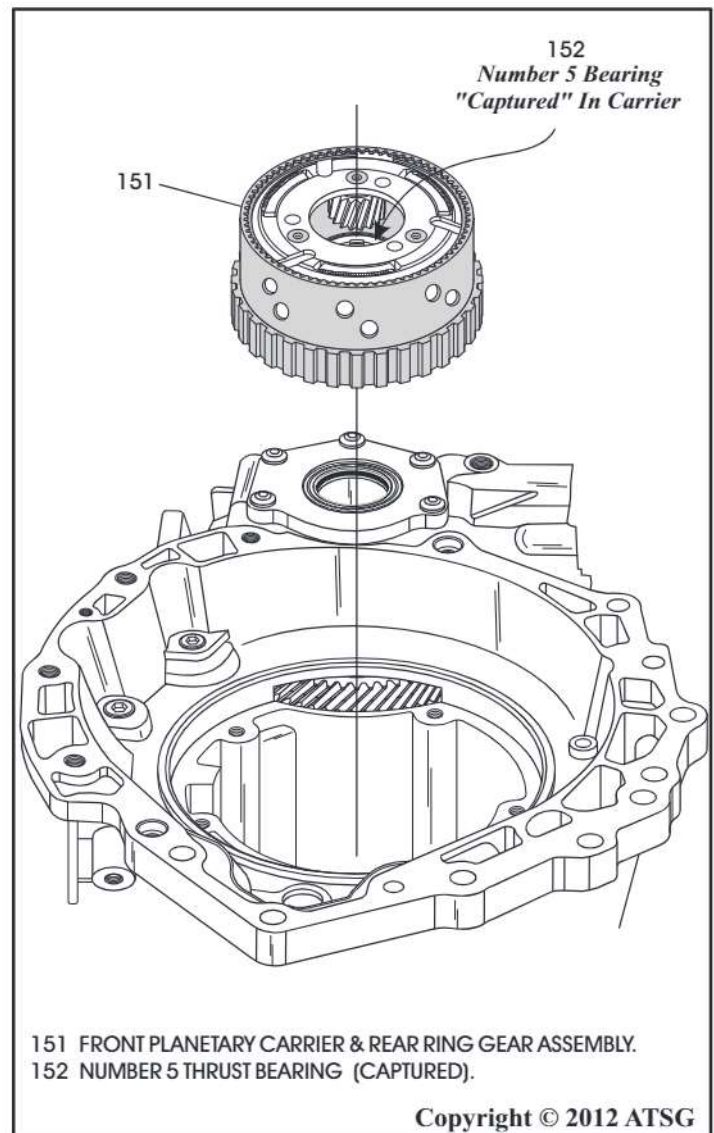

Figure 254
50. Install the front planetary carrier and ring gear, as shown in Figure 254, by rotating back and forth to fully engage the low/reverse clutches.